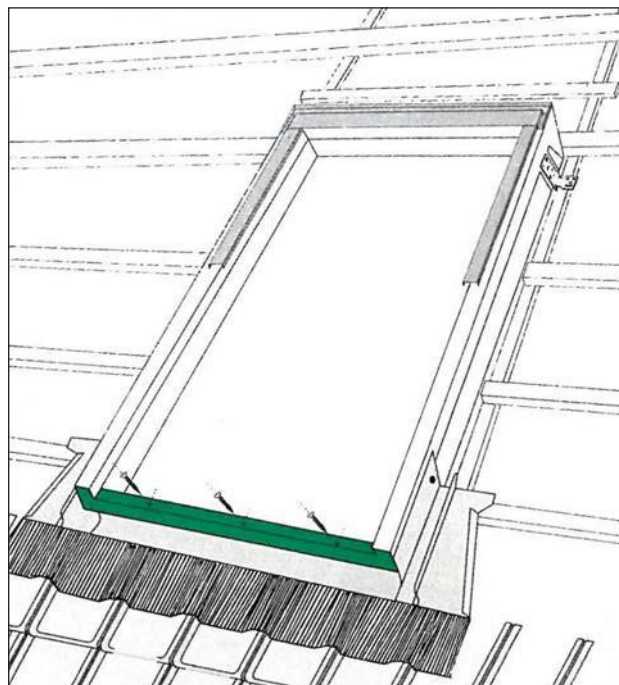

Fig 14
16) Put on the bottom flashing (7) covering the bottom part of the frame (Fig 14) and screw it to the frame. Use only stainless-steel wood screws. Remove the paper strip protecting the Bitumous layer underneath the element. Press the lead apron to shape it and stick it to the roof surface.